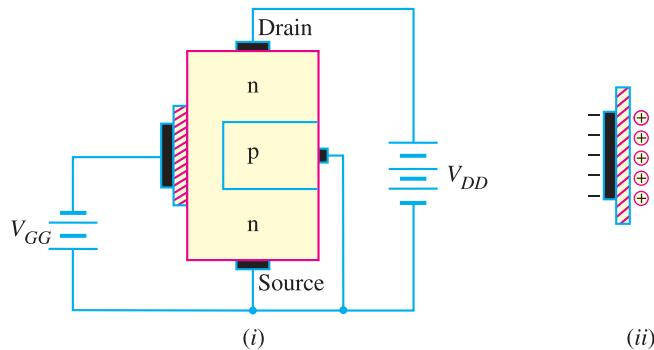

Fig. 19.47
Fig. 19.47 (i) shows the circuit of *n*-channel D-MOSFET. The gate forms a small capacitor. One plate of this capacitor is the gate and the other plate is the channel with metal oxide layer as the dielectric. When gate voltage is changed, the electric field of the capacitor changes which in turn changes the resistance of the *n*-channel. Since the gate is insulated from the channel, we can apply either negative or positive voltage to the gate. The negative-gate operation is called *depletion mode* whereas positive-gate operation is known as *enhancement mode*.
**(i) Depletion mode.** Fig. 19.47 (i) shows depletion-mode operation of *n*-channel D-MOSFET. Since gate is negative, it means electrons are on the gate as shown in Fig. 19.47 (ii). These electrons \*repel the free electrons in the *n*-channel, leaving a layer of positive ions in a part of the channel as shown in Fig. 19.47 (ii). In other words, we have depleted (*i.e.* emptied) the *n*-channel of some of its free electrons. Therefore, lesser number of free electrons are made available for current conduction through the *n*-channel. This is the same thing as if the resistance of the channel is increased. The greater the negative voltage on the gate, the lesser is the current from source to drain.